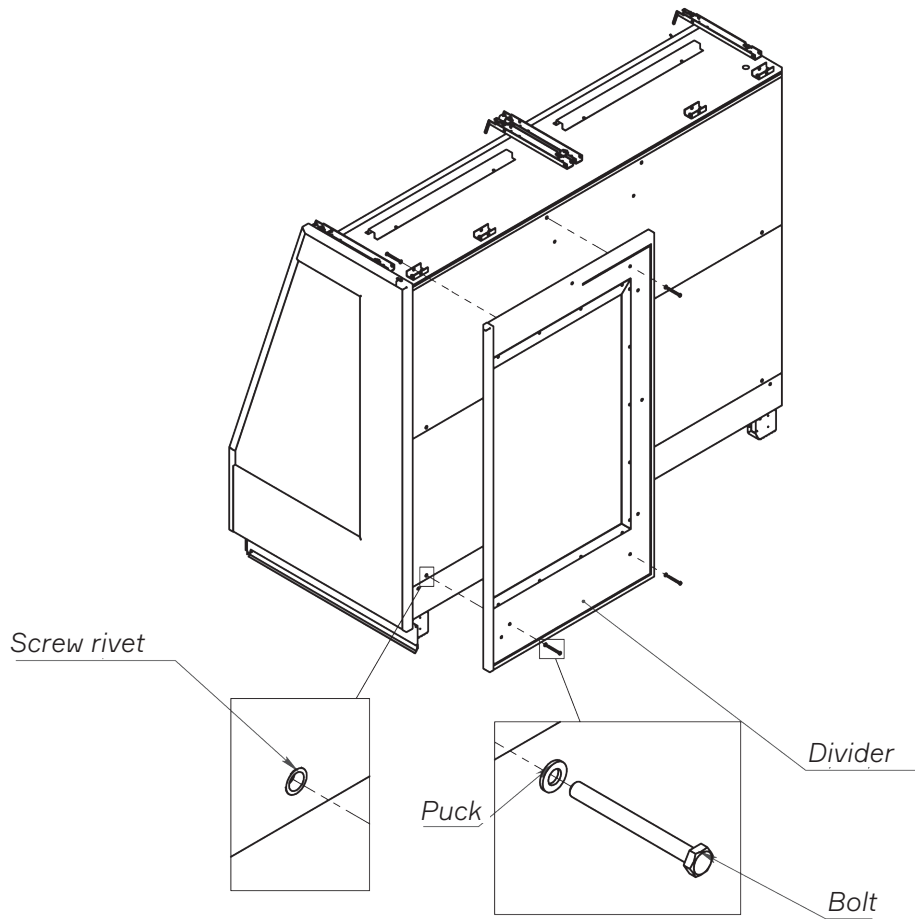

Fig. 18. Installing the divider
6. Take the assembly kit and connect the cabinets according to the holes on the divider (Fig. 18).